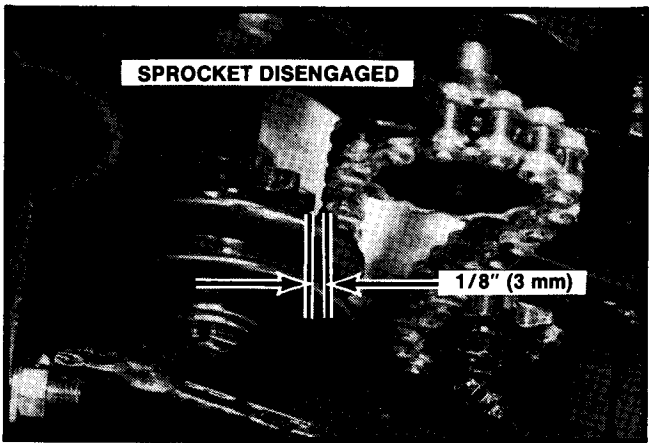

Figure 25. Pulley Sprocket Clearance
4. Raise the reel, and make sure the pulley sprocket fully disengages the chain and that there is clearance of approximately 1/8" (3 mm) between the sprocket and chain (See Figure 25).